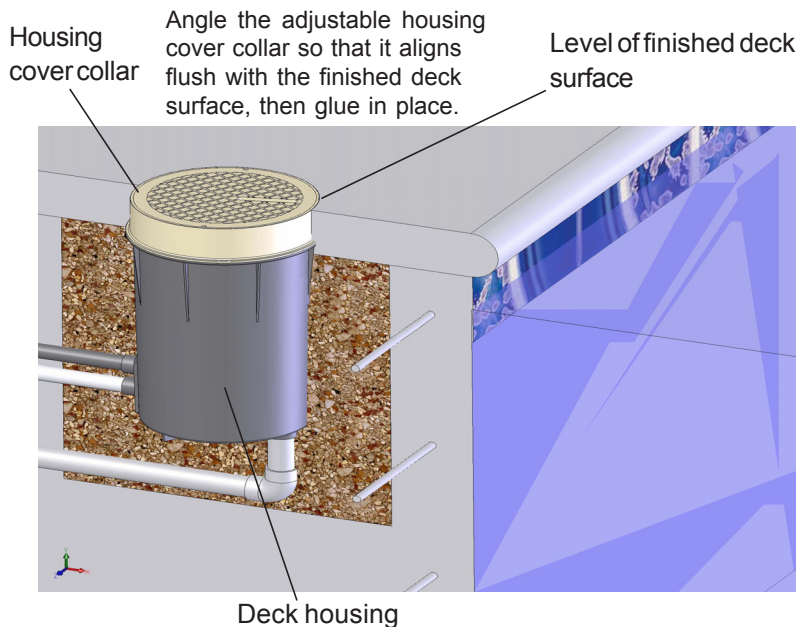

Figure 1
3. Anchor the deck housing so that the top of the housing cover collar is at the level of the finished deck surface (Figure 1). The adjustable collar should be angled so that it will align flush with the finished deck surface. Once you have made the final adjustments to the collar's angle, glue the collar to the deck housing.